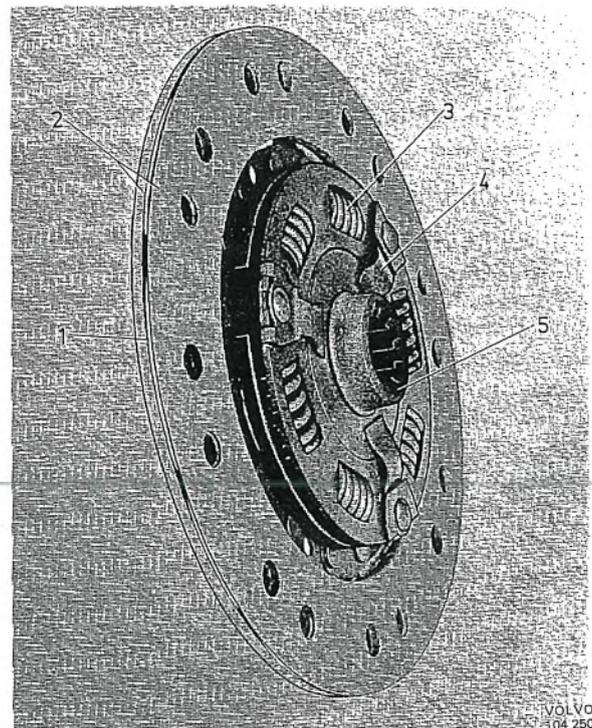

Fig. 4-5. Clutch disc
- Rivet on the new facings (preferably in a rivet press). NOTE. The rivets should be inserted from the side on which the facing lies and riveted up from the opposite direction against the disc. Use every other hole in the facing. After riveting, the facings should be spaced from each other as determined by the indentations on the clutch disc. See Fig. 4-5. This is most important in order to achieve a smooth engagement when starting and driving.